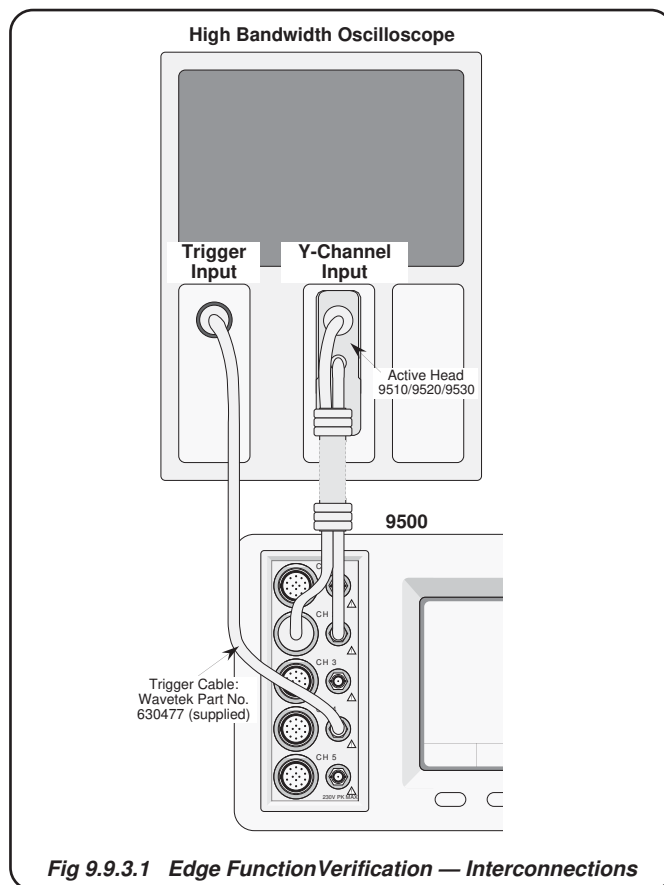

Fig 9.9.3.1 Edge Function Verification — Interconnections
- 1. Connections** Ensure that the 9500B is connected to the Oscilloscope as shown in *Fig. 9.9.3.1*, and that both instruments are powered on and warmed up.